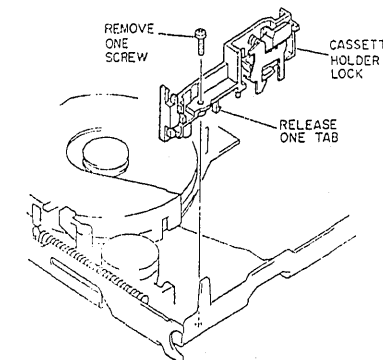

Fig. 2-92
1. Remove one (1) screw holding the cassette holder lock. (See Fig. 2-92)
2. Release one (1) tab and remove the cassette holder lock.